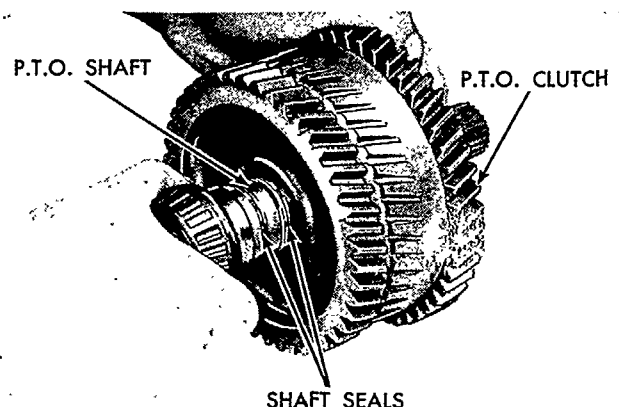

Figure 95
6. Install three shaft seals on the P.T.O. shaft, centering them, using petroleum jelly. Install the shaft into the clutch housing while holding the clutch hub in position, as shown in Figure 95.